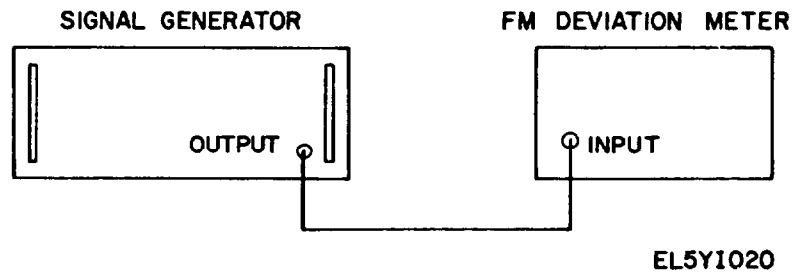

FIG 9-9. TEST SETUP, DEVIATION ACCUARACY
- a. Connect the equipment as shown in figure 9-9.